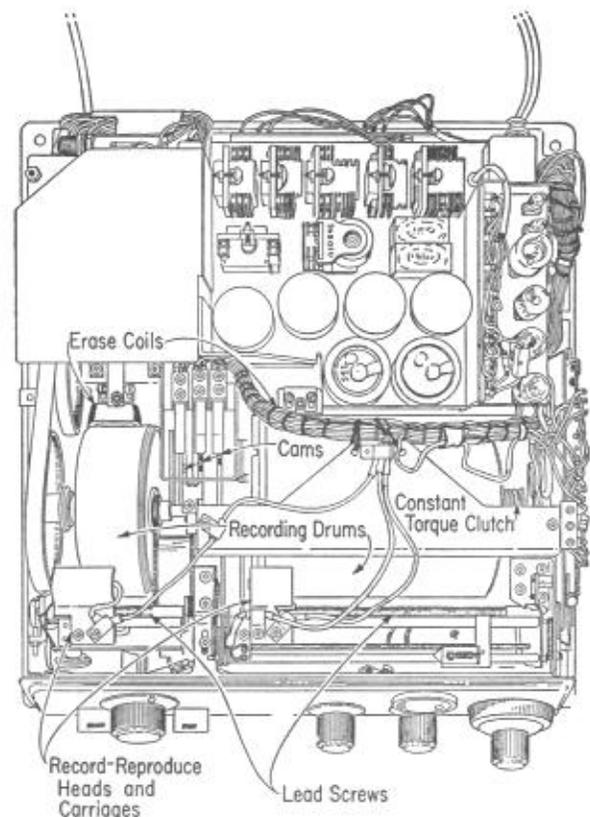

Fig. 2 - 1A and 1AA Answering Set, Top View, Interior
3.01 The mechanical parts within the set consist principally of a motor, belt drive, recording drums, recording head, carriages, lead screws, message selection and indicating means, cams, and erase coils (see Fig. 2 and 3).
a slot in the drum until the pawl is released by a solenoid, allowing the drum to rotate. The record-reproduce heads are each mounted on carriages which slide on horizontal guide rods. Each carriage is moved by a half-nut which engages a lead screw driven by gears from the respective drum (see Fig. 2).